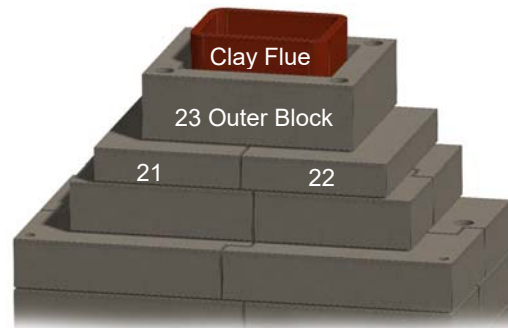

Figure 17. Stone Age Masonry Chimney
M. Install Stone Age masonry chimney system, consisting of clay liners and outer blocks, or Stone Age Pipe Adapter if installing a metal pipe chimney. See Figures 17 and 18.